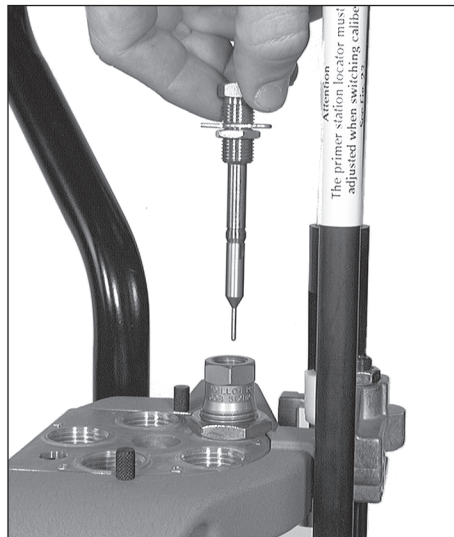

FIG 83
1. Unscrew the decapping assembly from the top of the die **FIG 83**.